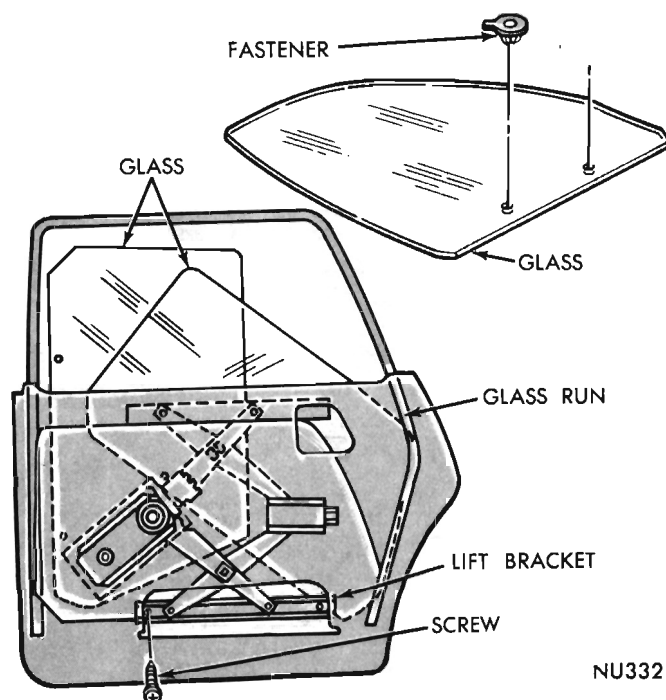

Fig. 20 - Glass Replacement
- (1) Remove lift channel to door glass fastener screws.
- (2) Rotate front edge of glass rearward and up to disengage ends of glass from run channels.
- (3) Lift glass assembly out of door.
- (4) Remove lift fasteners from glass (Fig. 20).
- (1) Position lift fasteners into glass from glass inner surface (Fig. 20).
- (2) With bottom of glass in forward position, lower glass into door.
- (3) Rotate front edge of glass forward and down, engaging glass ends into the front and rear glass runs.
- (4) Align glass fasteners with holes in lift channel and secure with screws.